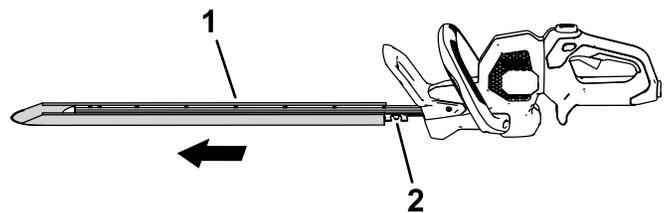

Figure 6
1. Remove the protective cover from the blades (Figure 6).